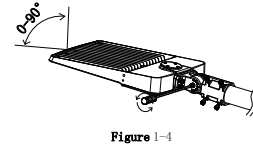

Figure 1-4
Step4: If the installation angle of the fixture needs to be adjusted, loosen the screws of the bracket and fix them again after finished adjustment, Figure 1-4;